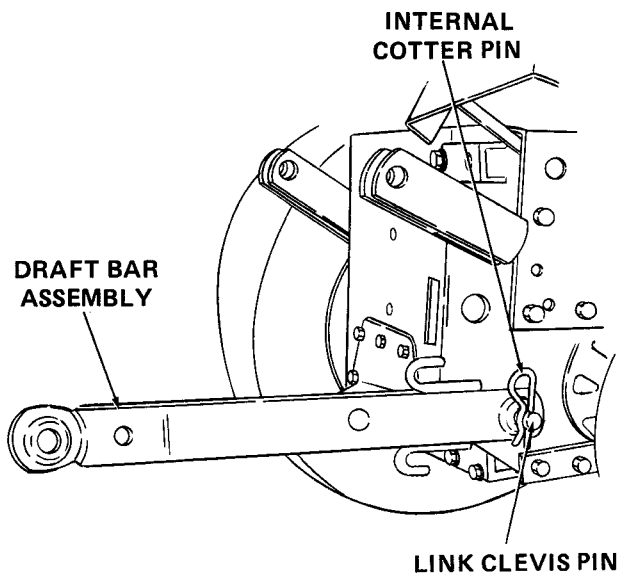

Figure A-17
- c. Attach front end of lift bar to hydraulic lift clevis assembly by placing clevis pin (N) through hole in frame and securing with cotter pin retained from step 5a.
6. Install draft bars (5) by positioning them over link clevis pin (C) and securing with internal cotter pin (O). Draft bar should angle away from the unit. Refer to Figure A-17.